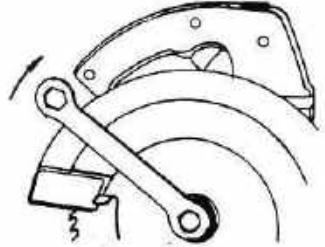

Fig. 624. TIGHTENING THE SAW BLADE
3. Loosen the retaining screw by turning it counterclockwise (to the left). Use the wrench that comes with the saw Fig.624.